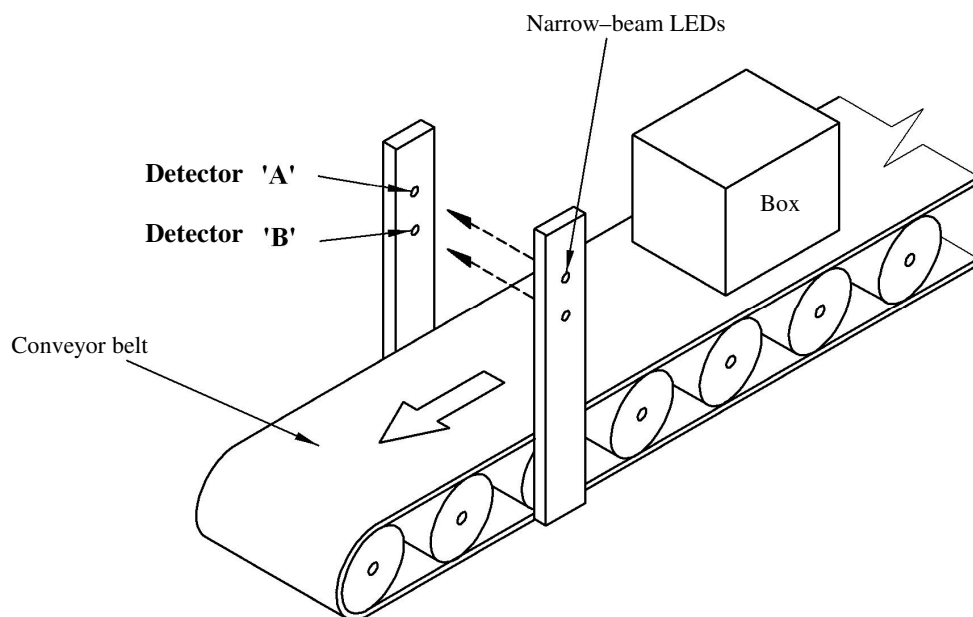

Figure 12(a)
- (c) Figure 12(a) shows a test setup used to check the height of boxes passing through. Two narrow-beam LEDs are mounted on a pole and two detectors are mounted on another pole to receive light from the LEDs. The detector gives a logic 'High' output when the light from the LED is blocked. Detector 'A' is used to check the height of the box while detector 'B' is used to check the presence of the box.
The output signals from the detectors are connected to a micro-controller system as shown in Figure 12(b). The outputs of the micro-controller drive a GREEN indicator and a RED indicator to show the test results as in the table below: